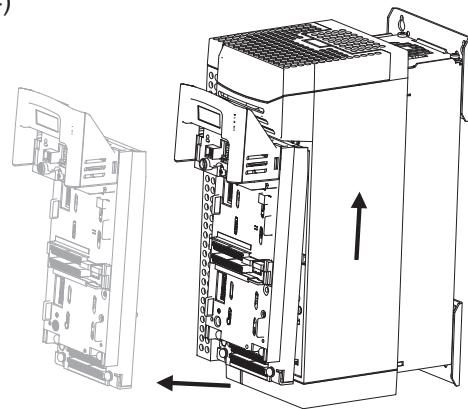
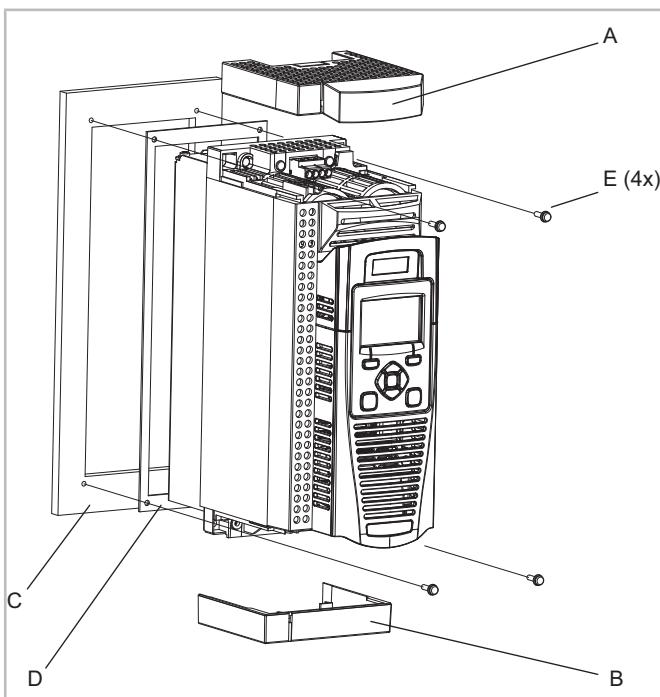

Fig. 7: Dismounting the control module
Fig. 8: Detailed view of the through-switch cabinet mounting (example FDU)
Graphical explanations, see figure 7, page 12 and see figure 8, page 13.
To allow the upper housing cover to be slid forward and dismounted, with these types the control module must be dismounted (see figure 7, page 12).
Dismounting the control module (see figure 7, page 12):
With these types, the control module does not need to be dismounted, in order to take off the housing cover (see figure 8, page 13).
- Introduce the screwdriver into the slot of the lower housing cover (B) and press it slightly towards the left. This will open the lock.
- In the accessories kit: Place the delivered gasket (D) around the frequency inverter in such a way that the free space between the switch cabinet wall (C) and the FI is sealed airtight.
- Mount the VARIPACK frequency inverter to the switch cabinet wall using 4 fixing screws (E) (see figure 8, page 13).
FDU the control module must be dismounted (see figure 7, page 12 and see page 11).